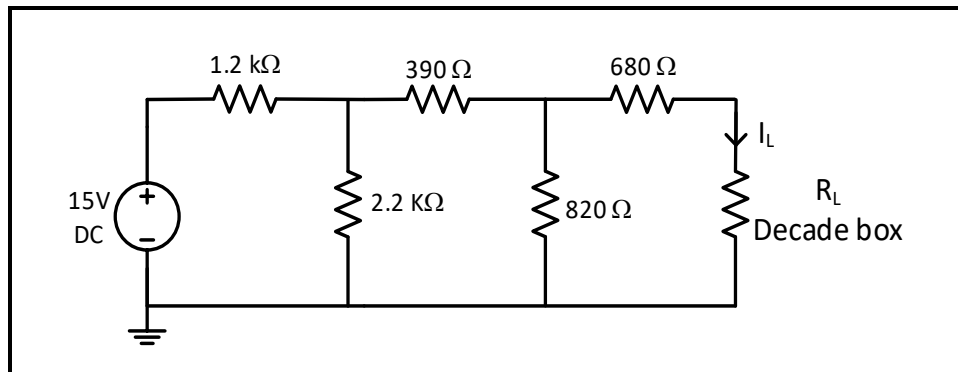

Figure 10.5
1. Make a DC sweep for R_L in the circuit of Figure 10.5 to produce a plot of (P_{LOAD} vs. R_L) for the range of values of R_L shown in Table 10.2, use cursors to find the value of R_L that results in maximum power transfer to R_L .
1. Connect the circuit of Figure 10.5, with the output of the power supply set to 15 V.